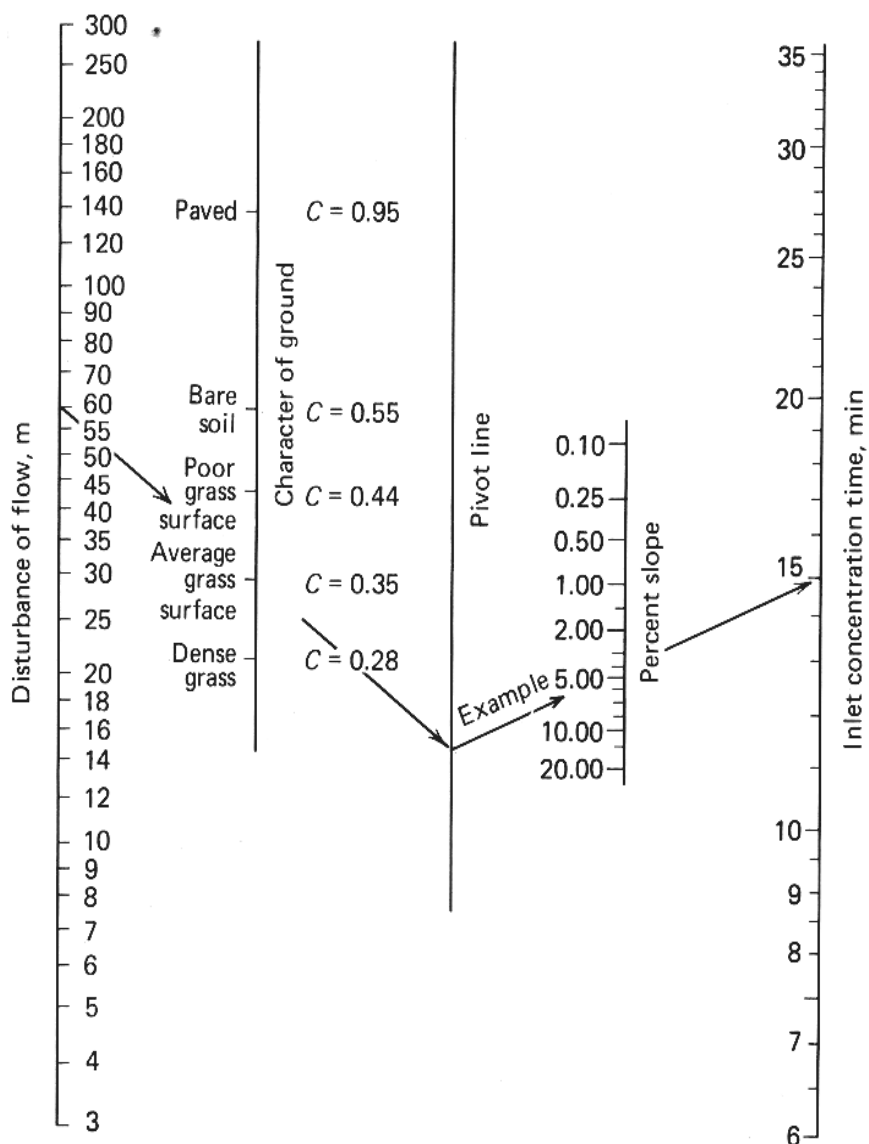

FIGURE 13-3
- Figure 13-3 can be used to estimate t_c (the Figure neglects the effect of rainfall intensity).
- From Figure 13-3, inlet time = 15 min. = t_c